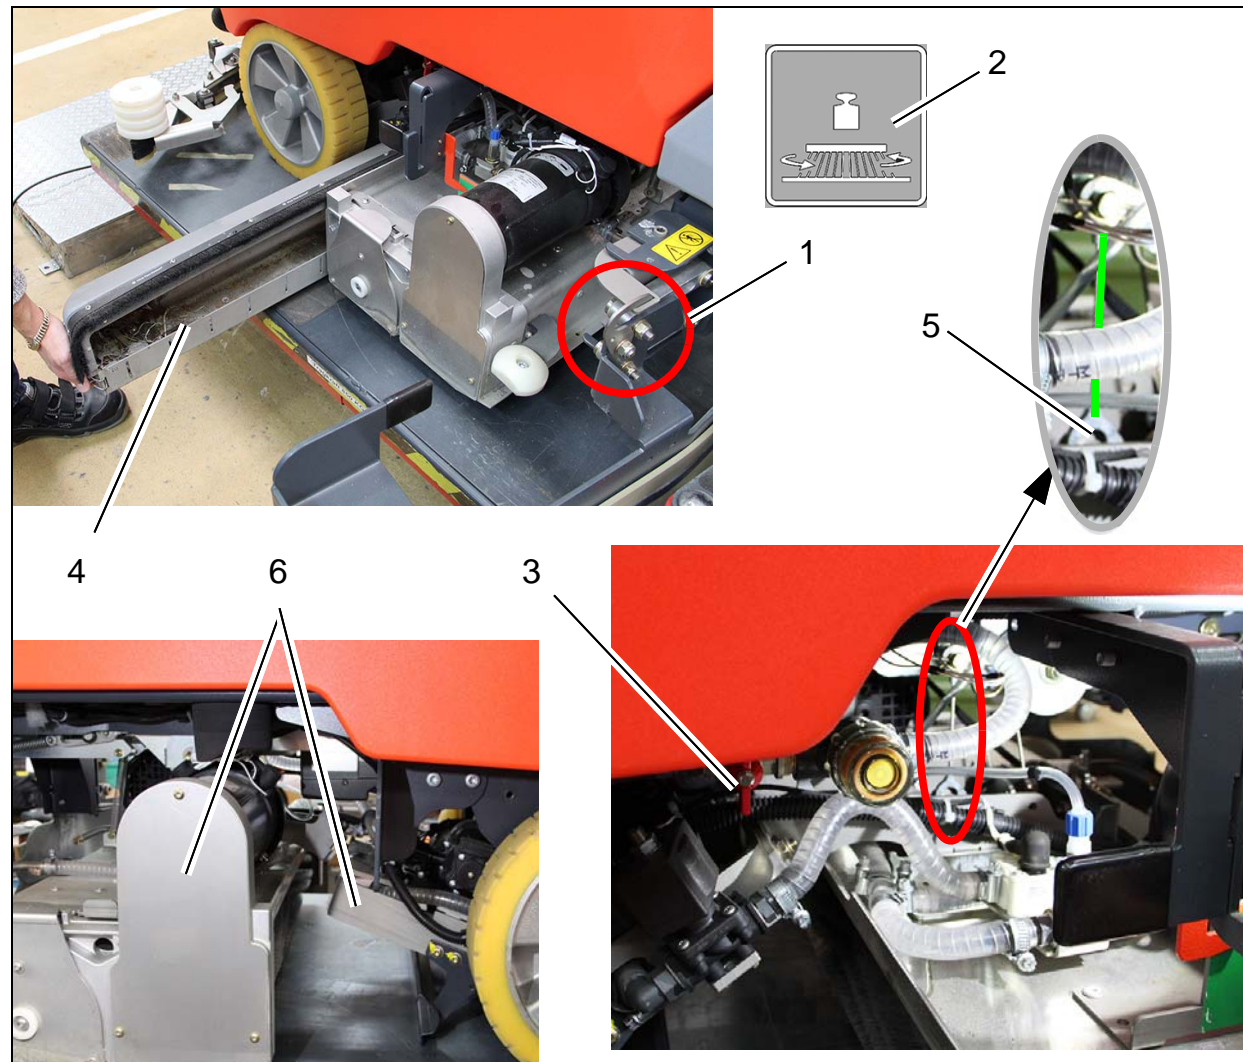

Fig. 2
1. Swivel away the wiper on the right-hand side of the machine and lock in position (Fig. 2/1).
2. Lower the brush unit and activate the brush pressure increase button (Fig. 2/2).
3. Close the ball cock (Fig. 2/3).
4. With a roller brush unit, remove the dirt hopper (Fig. 2/4).
5. To release the limiting cable, remove the splint with bolt (Fig. 2/5).
6. Remove nuts and screws at both sides and disconnect brush unit from brush head ferrule (Fig. 2/6). The pump on the left-hand side of the machine is now easily accessible.